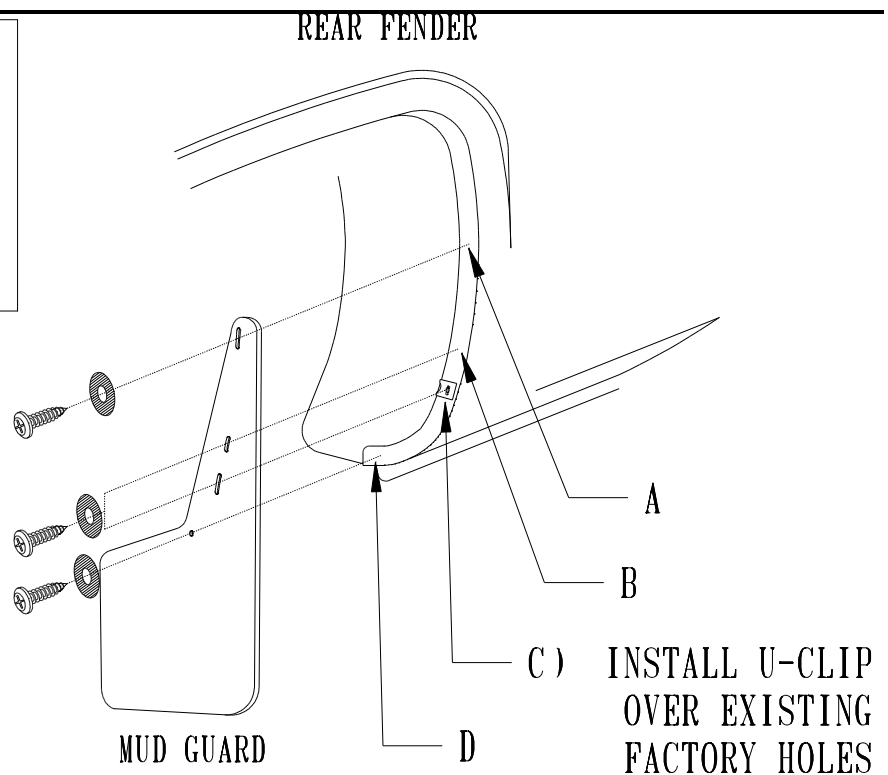

Figure 1
1. Install a U-Clip over any existing fender hole that will contact the mud guard (Figures 1 and 2).